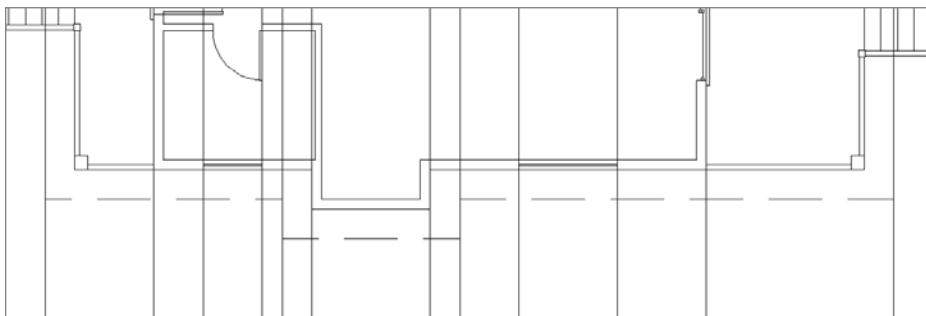

FIGURE 10.9 All the lines dropped down from the floor plan
5. Press Esc twice to end the command and deselect the line. Your drawing resembles Figure 10.9.